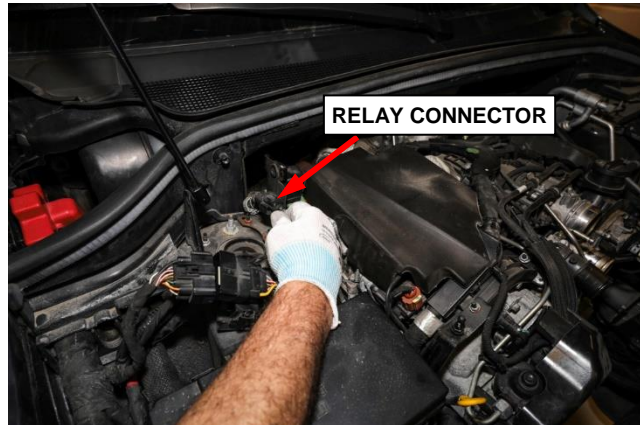

Figure 11 – Relay Connector
25. Disconnect the connector at the relay and bracket on the strut tower (Figure 11).